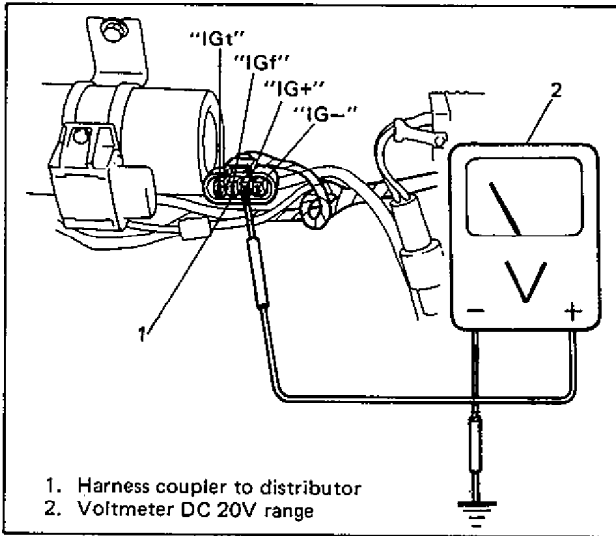

Fig. 6F1-12 Checking Voltage of Igniter Coupler
3. Disconnect injector coupler (Fig. 6F1-2). Check IGt terminal voltage of igniter coupler as follows.